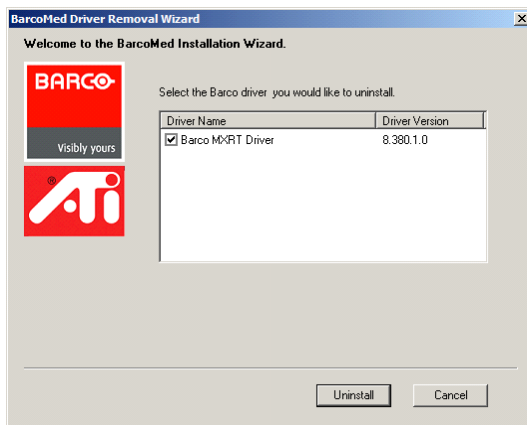

Figure 31: Barco MXRT Driver Removal Wizard (driver version may be different than what is pictured)
**Note:** When uninstalling the Barco MXRT drivers, the dialog box shown in figure 31 will appear, and select the driver listed.